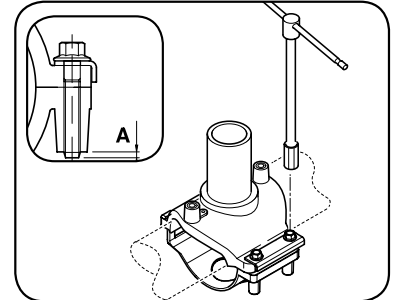

FIG.2
- 4 Fasten the saddle on the pipe using the **QUICK-COUPLING PLASTIC UNDERCLAMP**: hook up the square holes of the underclamp to the teeth of the upper part. Line up the metal spacer and use a wrench to tighten the two screws until they are in position A in the lower part (feel the screws sticking out the bottom, see fig.2).